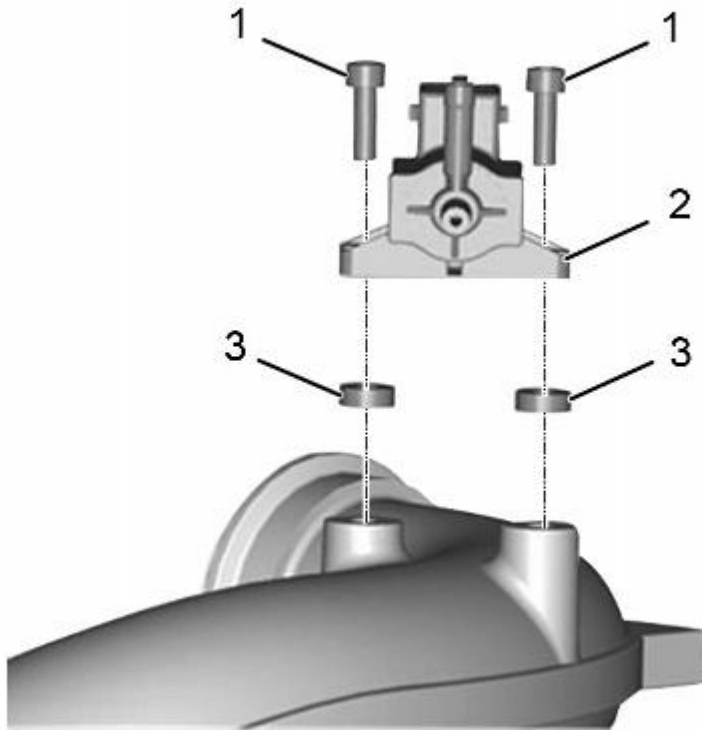

Figure 17. Turbocharger 2 Wastegate Control (TC2WC) Valve.
- 1. Bolt (2)**
- 3. Insulator (2)**
15. Install TC2WC valve (Figure 17, Item 2) onto crossover tube with two insulators (Figure 17, Item 3) and bolts (Figure 17, Item 1).